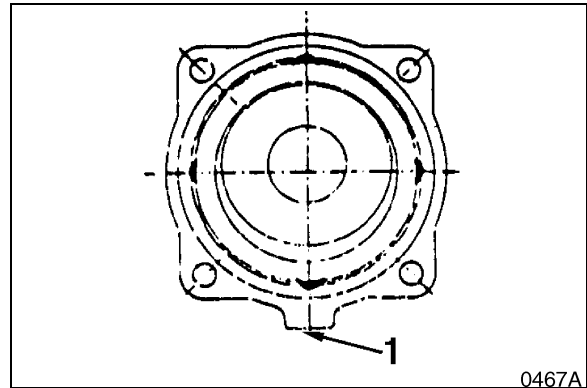

Figure 37 \
12. Turn motor so that front cover side (304) is down. Put separator plates (743) and friction plates (742) back in same order in which they were removed. There are three separator plates (743) and two friction plates (742), which should be positioned as shown in drawing below, with clearance towards side of casing with brake valve (1, Figure 37).